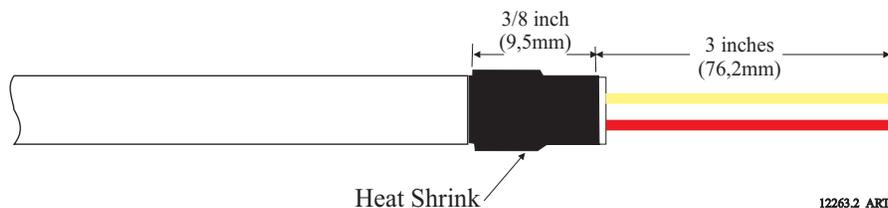

Figure 4-11: Two-Conductor Start Interlock Cable
- C Strip back 3 inches (76,2mm) of the PVC jacketing. Refer to Figure 4-11: Two-Conductor Start Interlock Cable.